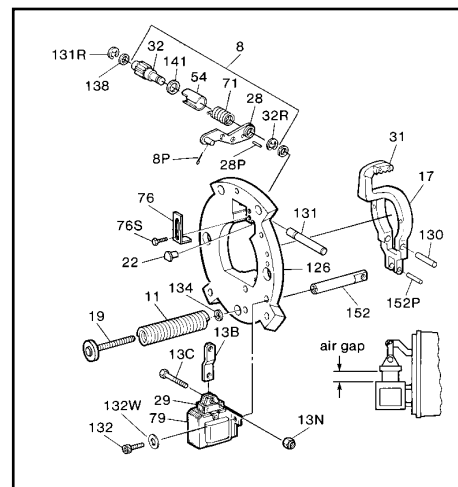

Figure 6
G. Reassemble friction disc (be sure friction discs slide freely), spring (if vertical), stationary discs, and pressure plate in correct sequence and position. All parts must slide freely. The universal mounting pressure plate presently used has three tapered reliefs on outboard face. However, some older brakes used a pressure plate with a single tapered relief marked top, which must be installed with relief facing manual release rod (146).
H. Mount support plate assembly, torque screws to 50 in-lbs in endplate. Conical spring washer installed under the screw head. Flat washer used under the conical spring washer only with aluminum support plate. Be sure that assembly is mounted with the solenoid in a vertical position (plunger above frame) as shown when brake is horizontal. If release rod (146) is not in manual release position and has allowed the mechanism to overadjust, it will have to be reset before mounting support plate. In this case, the lever arm (17) throat will be near, or touching, the pinion (32) teeth. Refer to Figure 6 and *Self-Adjust Maintenance*. Loosen pressure spring cap screw (19) until pressure spring (11) is free, mount support plate assembly to endplate and retighten spring cap screw until snug. Do not overtighten! Torque to a maximum of 8 ft-lbs.
#### C. Self-adjust maintenance (See Figure 6)